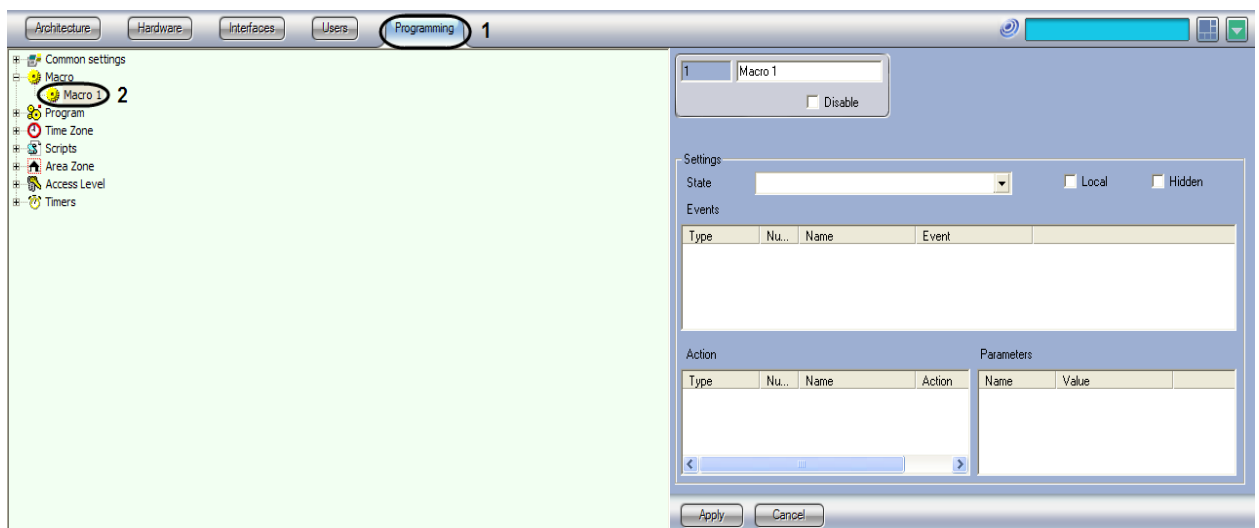

Figure 3.4-11 The setting panel of the Macro object
1. Open the **Programming** tab in the **System settings** dialog box (Figure 3.4-11, 1).
2. Create a **Macro** object under the **Macro** object on the **Programming** tab (Figure 3.4-11, 2). Enter the object ID and name.